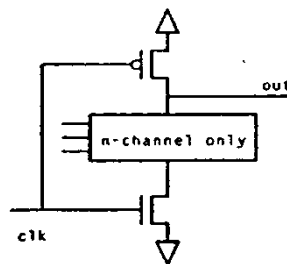

Figure Q4
- (e) Figure Q4 shows an n-channel P-E logic. Explain its operation in terms of: